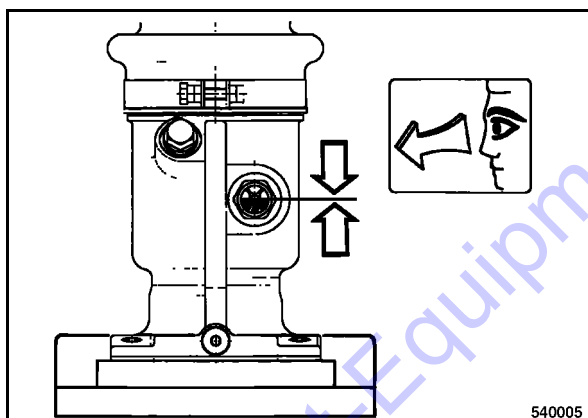

Fig. 63
- Clean the inspection glass (Fig. 63) and check the oil level.